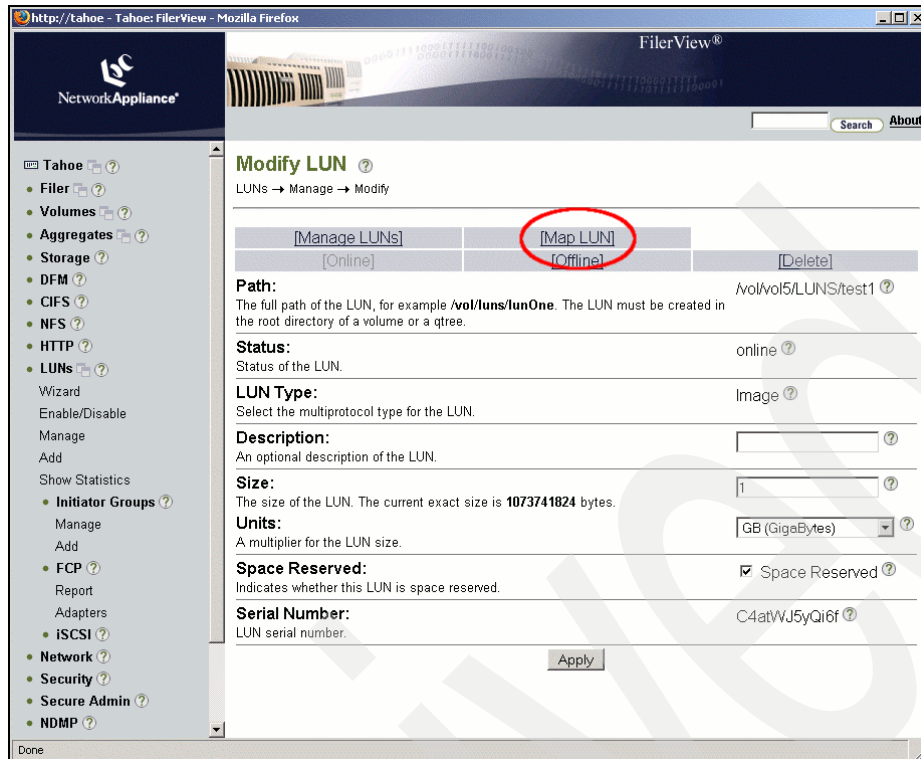

Figure 8-12 LUN details on the NetApp FAS
3. Click **Map LUN** in the Modify LUN panel (Figure 8-12).